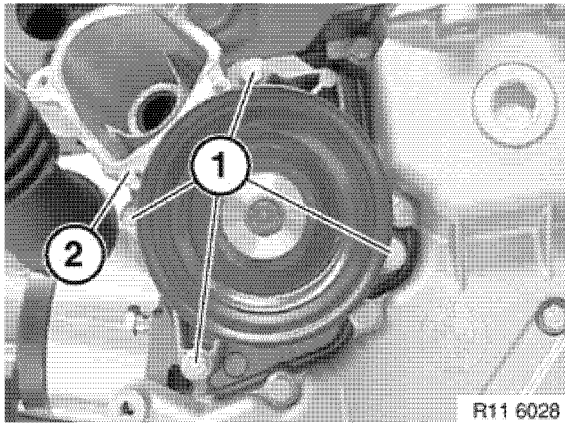

Figure 7-17
5. Remove coolant pump cover bolts and coolant pump cover from coolant pump housing (2, **Figure 7-17**).
*Note: Coolant pump cover is shown removed for clarity **Figure 7-17**.*
6. Remove the four coolant pump bolts (1, **Figure 7-17**) and remove the coolant pump.